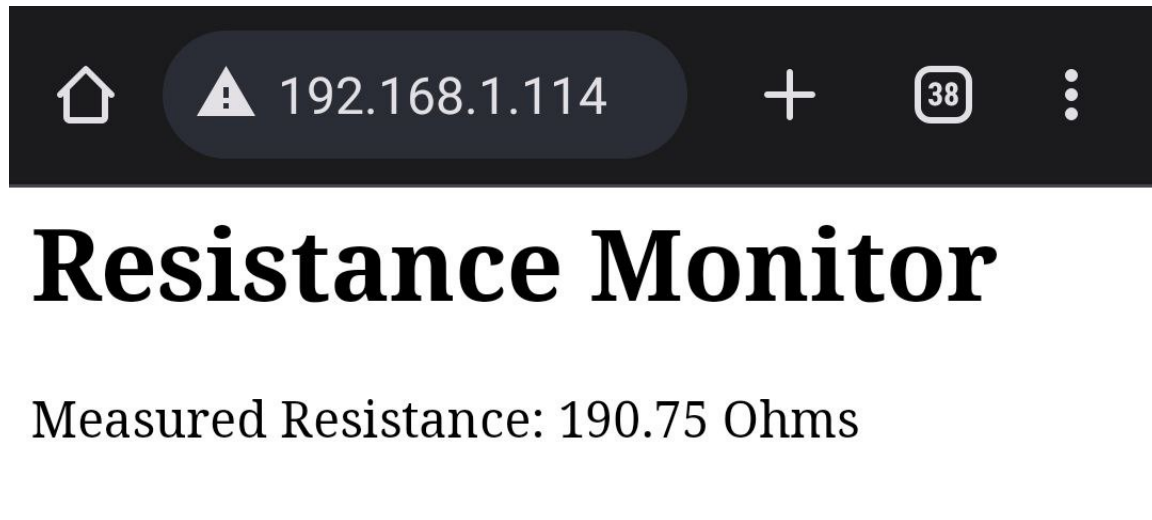

Figure 1.2.13.1: Website
1.2.13. In the website loaded by the IP address of ESP32 the Unknown resistance is displayed as shown in Fig. 1.2.13.1